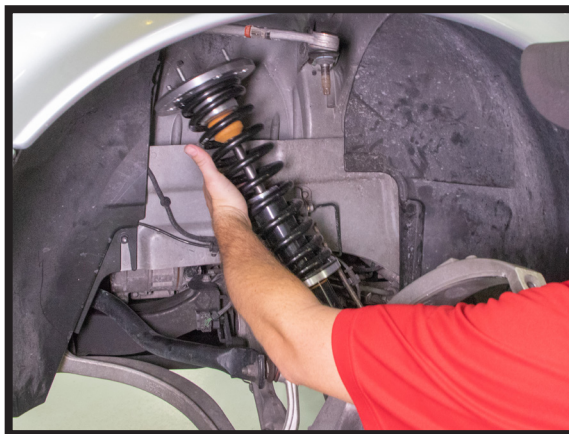

FIGURE 6
1. PLACE COIL SPRING ONTO VEHICLE. (FIGURE 6)